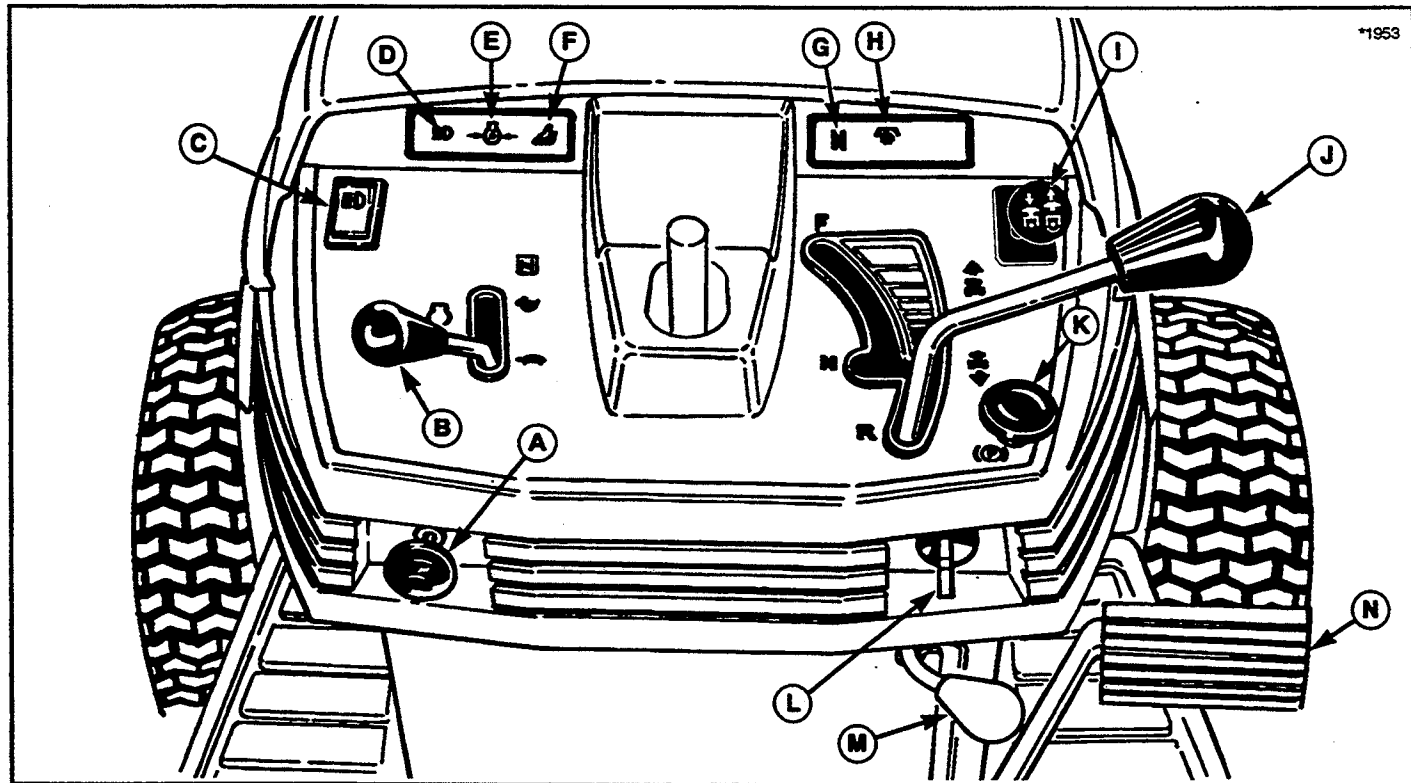

Figure 1. Tractor Controls (Hydro Model Shown)
NOTE: The only difference between the hydro and gear dash controls is the decal next to the Ground Speed Control Lever (J, figure 1).
- A. Neutral Indicator Light (G, figure 1) should go on with transmission lever in neutral gate and should go out when lever is moved to either the forward or reverse gate.
- B. PTO Indicator Light (H, figure 1) should go on and off with operation of PTO switch.
- C. Oil Pressure Indicator Light (E, figure 1) should be on and should go out immediately after engine starts.
- D. Operator Seated Indicator Light (F, figure 1) should go on when operator is present in the seat and should go off as operator rises out of the seat.